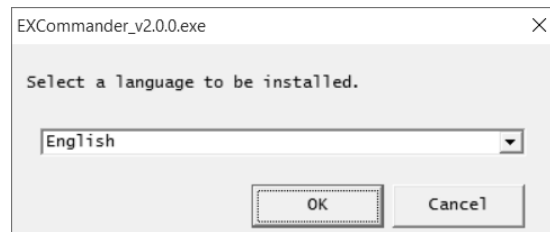

Figure 1.1.8 Selecting the language
1. When double-click the downloaded installer, a dialog of Figure 1.1.8 appears. Select the language you use.